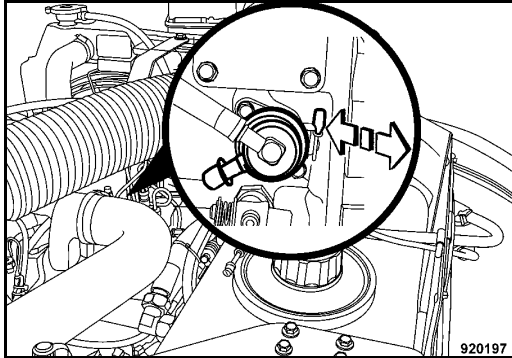

Fig. 158
- Operate the fuel lift pump (Fig. 158) until fuel runs out of the bleeding screw without air bubbles.